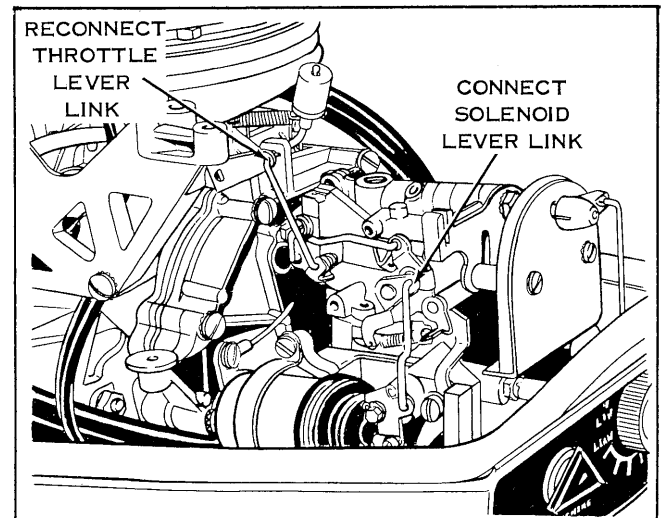

FIGURE 17
3. Reassemble fuel line and clamp to carburetor, then fasten the small red wire from the cable assembly to the solenoid terminal with SEMS screw provided. Run wire across back of carburetor and secure in position as shown in figure 17. Assemble carburetor and gasket to manifold and securely fasten with the two nuts. Then reconnect the throttle lever link to cam follower arm and fasten with new pin provided. Connect solenoid lever link to choke bellcrank with pins provided as shown in figure 17.
5a. Reassemble carburetor to motor. Reconnect throttle link as in figure 17.